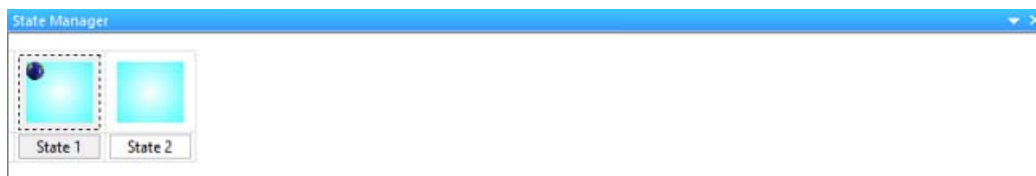

FIG. 320 State Manager window - multi-state button with bitmap applied to State 1
- Click **OK** to close the *Bitmaps* dialog. The State Manager window now shows the button with the bitmap in the 0,0 position in State 1 (FIG. 320):